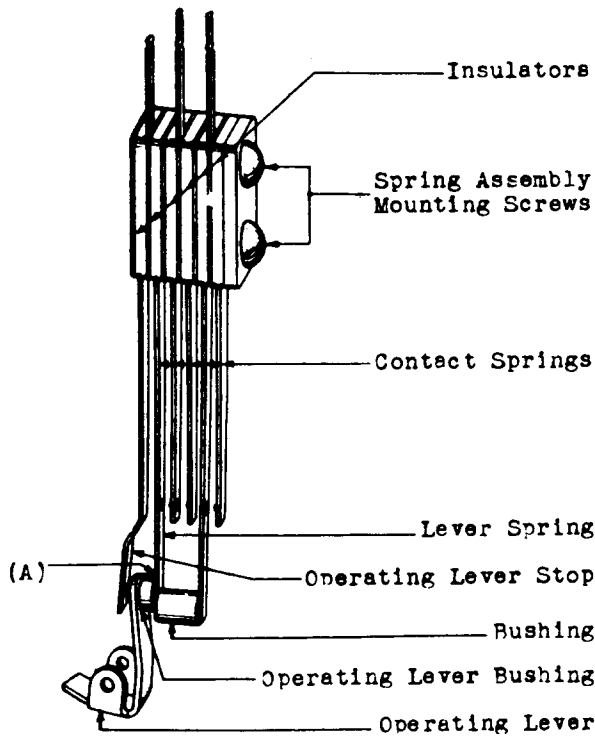

Fig. 5 - Spring Assembly - Internally Adjusted Dashpot Relay
- 2.09 Operating Lever Clearance - Fig. 5 (A) - (Internally Adjusted): With the operating lever against the operating lever stop the clearance between the operating lever bushing and the lever spring shall be Max. .015" Gauge by eye. The thickness of a lever spring is .015".